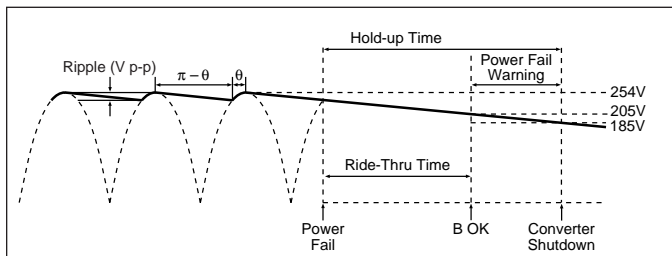
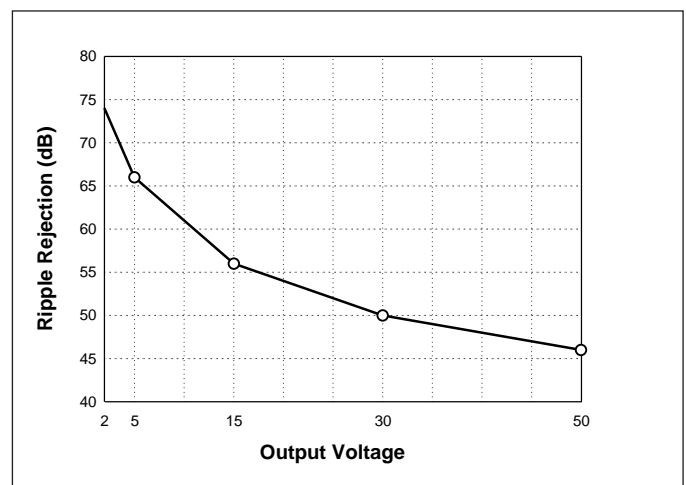

Figure 13—Hold-up time
Figure 17—Converter ripple rejection vs. output voltage
Hold-up capacitor values should be determined according to output bus voltage ripple, power fail hold-up time, and ride-through time (see Figure 13). Many applications require the power supply to maintain output regulation during a momentary power failure of specified duration, i.e., the converters must hold-up or ride through such an event while maintaining undisturbed output voltage regulation. Similarly, many of these same systems require notification of an impending power failure in order to allow time to perform an orderly shutdown.
The power fail warning time (Δt) is defined as the interval between BOK and converter shutdown (EN) as illustrated in Figure 13. The Bus-OK and Enable thresholds are 205V and 185V, respectively. A simplified relationship between hold-up time, operating power, and bus capacitance is obtained by inserting these constants in equation (3):
For example, a converter whose output is 15V and nominal input is 300V will provide 56dB ripple rejection, i.e., 10V p-p of input ripple will produce 15mV p-p of output ripple (see Figure 17). Equation 3 is again used to determine the required capacitance. In this case, V_1 and V_2 are the instantaneous values of bus voltage at the peaks and valleys (see Figure 13) of the ripple, respectively. The capacitors must holdup the bus voltage for the time interval (Δt) between peaks of the rectified line as given by:
DC-DC Converter. Figure 17 is used to determine the ripple rejection of the DC-DC converter and indicates a ripple rejection of approximately 60 dB for a 12V output. Since the ripple on the bus voltage is 12Vac and the ripple rejection of the converter is 60 dB, the output ripple of the converter due to ripple on its input (primarily 120 Hz) will be 12mV p-p. Note that 2nd Generation converters have greater ripple rejection than either VI-200s or VI-J00s.